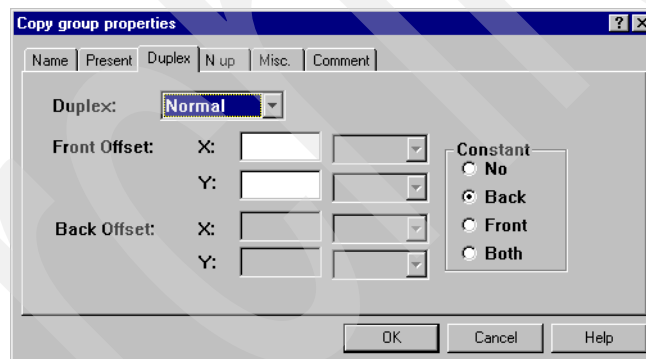

Figure 31. Constant back settings in copy group
1. Start by making the necessary modifications to the copy group, COPY1. Activate the form definition window, and right-click the copy group. Click the **Duplex** tab. You see the Copy group properties window as shown in Figure 31.